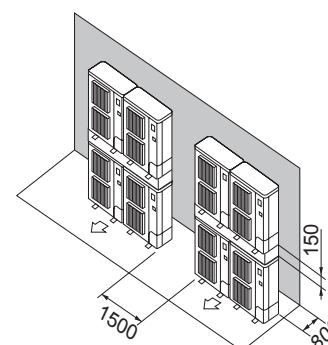

Fig. 3-18
- Stacked unit arrangement (Fig. 3-18)